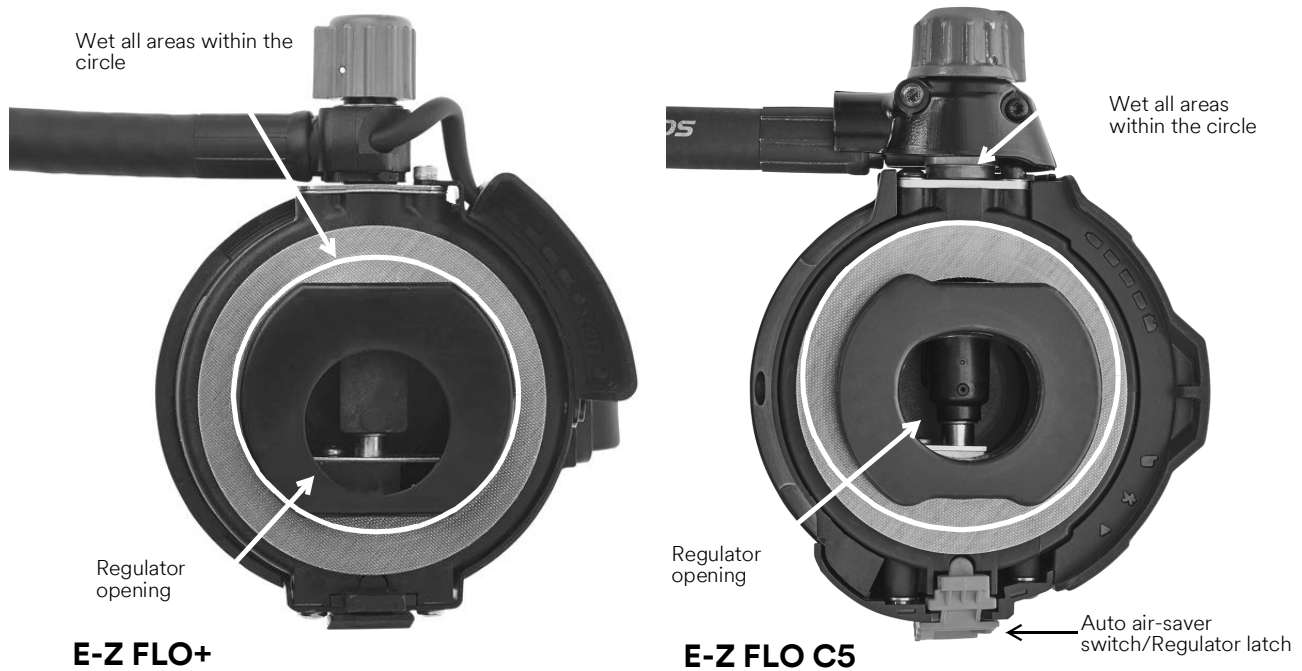

Figure 3-1 Cleaning the mask-mounted regulator
- 3 Inspect the inside of the regulator assembly through the regulator opening (see Figure 3-1). If excessive dirt or soil is present, forward the regulator assembly to 3M-trained authorized personnel for thorough cleaning.
- 5 Using a spray bottle, apply the sanitizing or disinfecting cleaner to the surfaces of the regulator opening and the immediate area around the opening (see Figure 3-1). Be sure to cover the internal components completely with the cleaning solution.